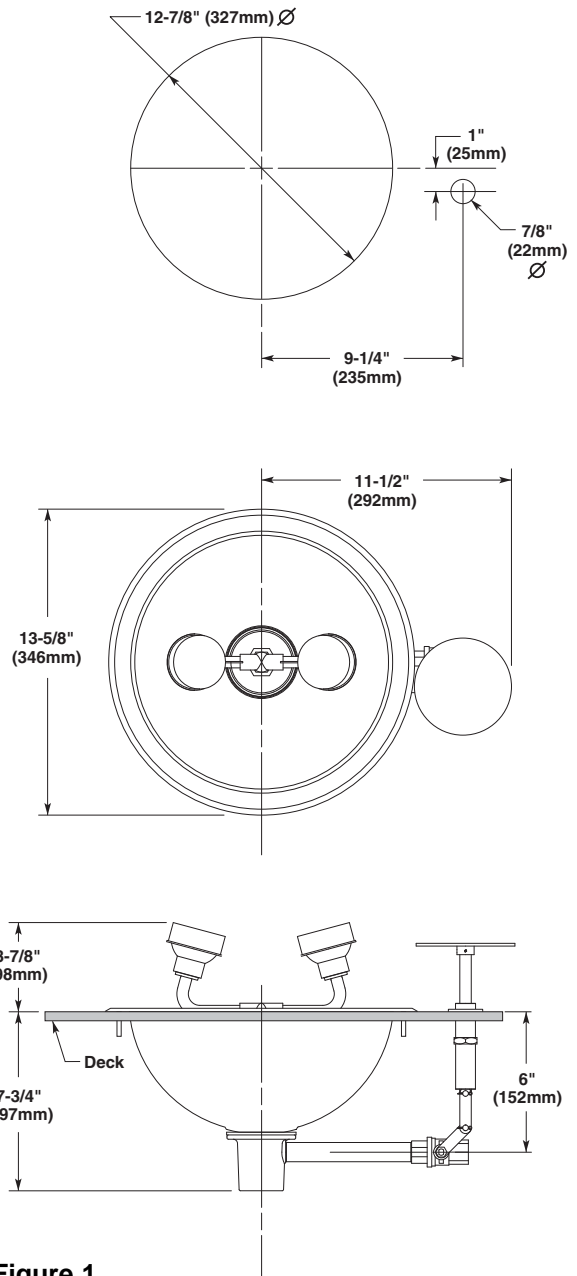

Figure 1
1. Select the desired location for the eyewash on the deck and make the necessary cutouts per the rough-ins (see Figure 1).